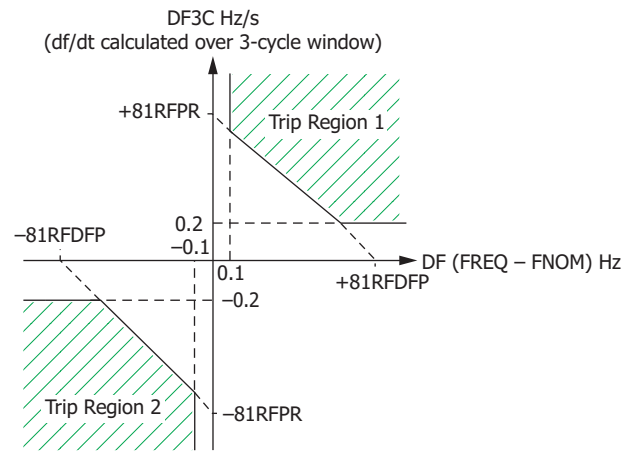

Figure 11 81RF Characteristic Power Element Protection
The fast rate-of-change-of-frequency protection (81RF) element, provides a faster response compared to the frequency (81) and rate-of-change-of-frequency (81R) elements. Fast operating speed makes the 81RF element suitable for detecting islanding conditions. The element uses a characteristic (see *Figure 11*) based on the frequency deviation from the nominal frequency ($DF = \text{FREQ} - \text{FNOM}$) and the rate-of-change of frequency ($DF3C$) to detect islanding conditions.